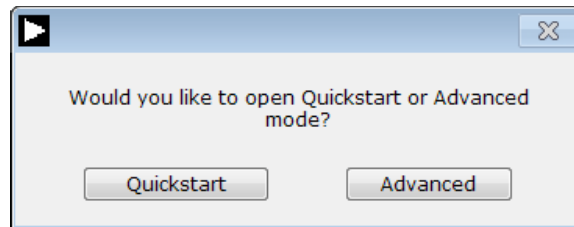

Figure 15. AD411X Eval+ Startup Mode Selection
- The dialog box shown in Figure 15 appears. Quickstart mode provides a simplified version of the software that can be used as a starting point for evaluating the AD4112. This mode provides a graphical user interface (GUI) for setting up inputs, as shown in Figure 16, and allows the user to configure the device further by using the blue configuration buttons (Label 7 Figure 16).